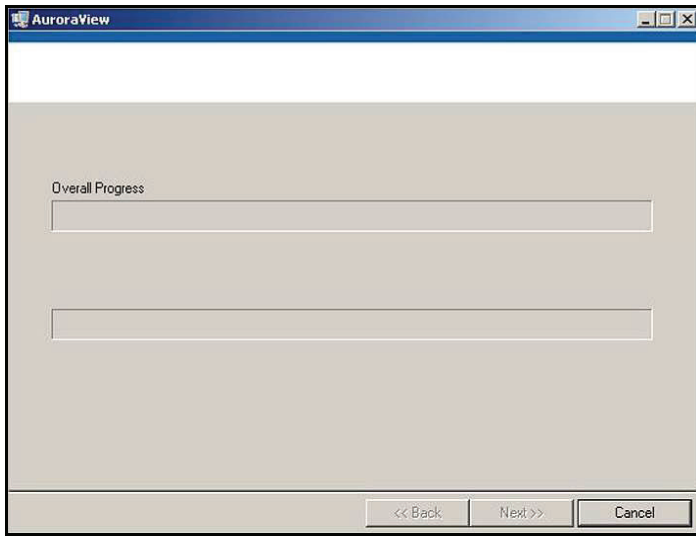

Figure 26: Overall progress
8. During installation, the screen shown in *Figure 26* below appears.